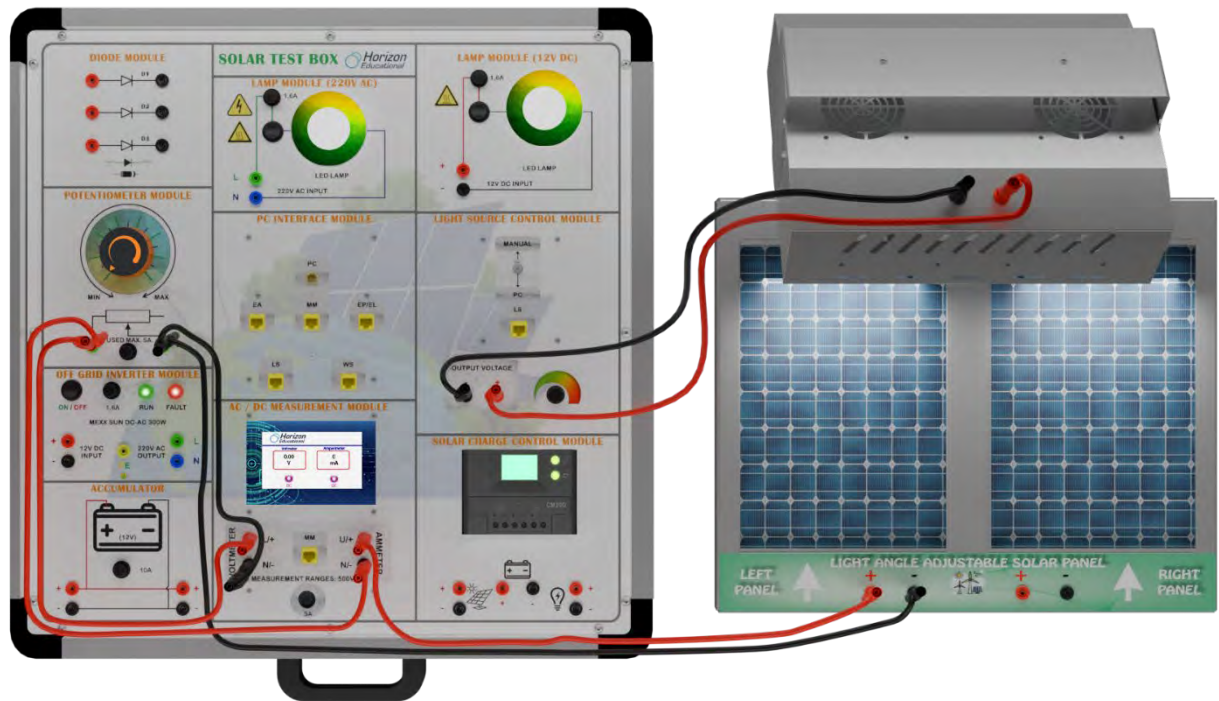

Figure-25. Installation Image of Examination of the Loaded Output Voltage Due to the Season Change of the Photovoltaic Panel
1. Set up the connection as specified in Figure-25. Ensure a constant level of light in the laboratory by creating an average scenario. Any alterations to the positions of the lamps or curtains will have an impact on the experimental outcomes.